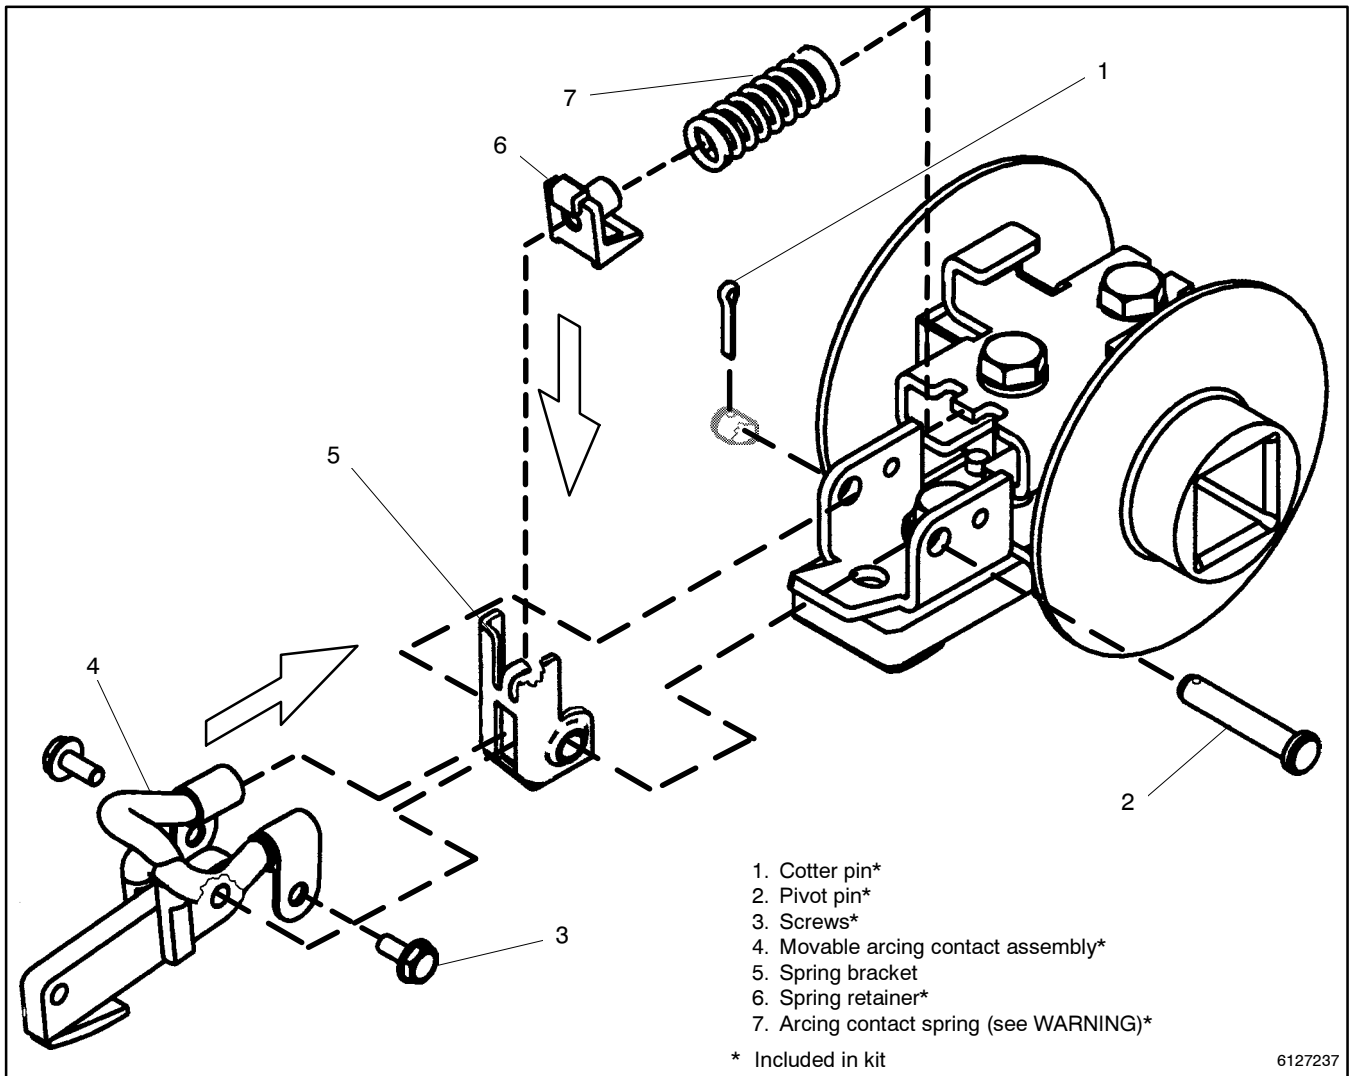

Figure 8-11 Movable Arcing Contact Assembly
2. Remove the movable arcing contact spring. Use a screwdriver (or spring compressor) to carefully release the movable arcing contact spring from the tab on the shaft clamp. *See the note above!* Then remove the spring and spring retainer. See Figure 8-11.
3. Disconnect the movable arcing contact shunts. Use a 5/16 in. open-end or box wrench to remove two SEMS screws that secure the movable arcing contact shunts to the pivot bracket. See Figure 8-11.
4. Remove the pivot pin from the pivot bracket. Use needlenose pliers to straighten and remove the cotter pin that secures the pivot pin. Then remove the pivot pin, spring bracket, and movable arcing contact. See Figure 8-11.
5. Install the new movable arcing contact. Install the new spring bracket into the pivot bracket. Then insert the new movable arcing contact into the slot of the spring bracket. Next insert the new pivot pin through the pivot bracket, spring bracket, and movable arcing contact. Install the new cotter pin into the end of the pivot pin (spread or bend the cotter pin to secure the assembly). See Figure 8-11.
6. Connect the new movable arcing contact shunts. Install two SEMS screws (#10-32 3/8 in.) to connect the two shunts of the new movable arcing contact to the pivot bracket. Tighten the screws with a 5/16 in. open-end or box wrench. See Figure 8-11.
7. Install the new movable arcing contact spring. Install the new spring retainer onto the tab on the spring bracket. Then use a screwdriver (or spring compressor) to carefully install the new movable arcing contact spring between the spring retainer and the tab on the shaft clamp. See Figure 8-11.